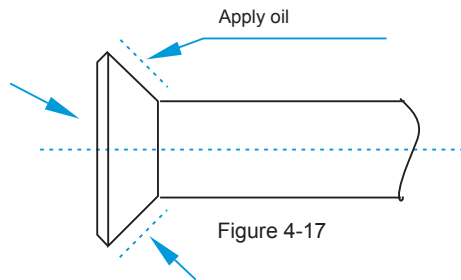

Figure 4-17
- Before the socket cap is installed on the pipe socket, apply some oil onto the socket (both inside and outside), afterwards rotate it three or four times before tightening the cap. See Figure 4-17.